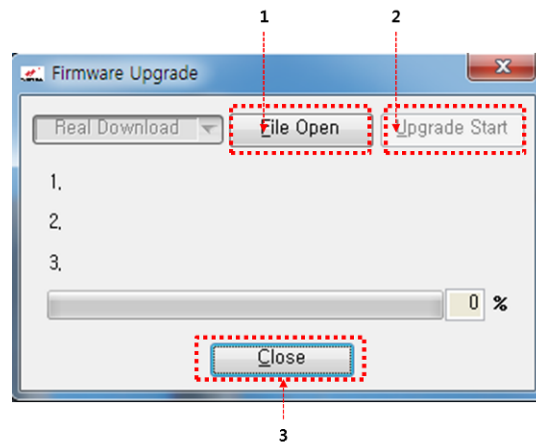

Figure 7-1: Firmware Upgrade Progress Window File Open Tab
2. Click in the IP menu located on the left side of the Control page. The Firmware Upgrade progress window, Figure 7-1, displays.
3. Click the **File Open** tab in the Firmware Upgrade progress window to display it, Figure 7-1.